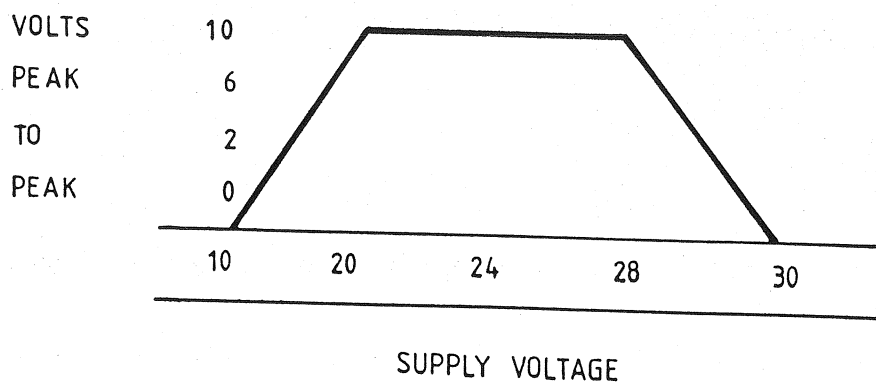

Fig. 2C.2 Battery Charging Ripple Graph
- 4 Reference to the front panel controls given in Figure 2C.1 should be made when reading the following instructions.